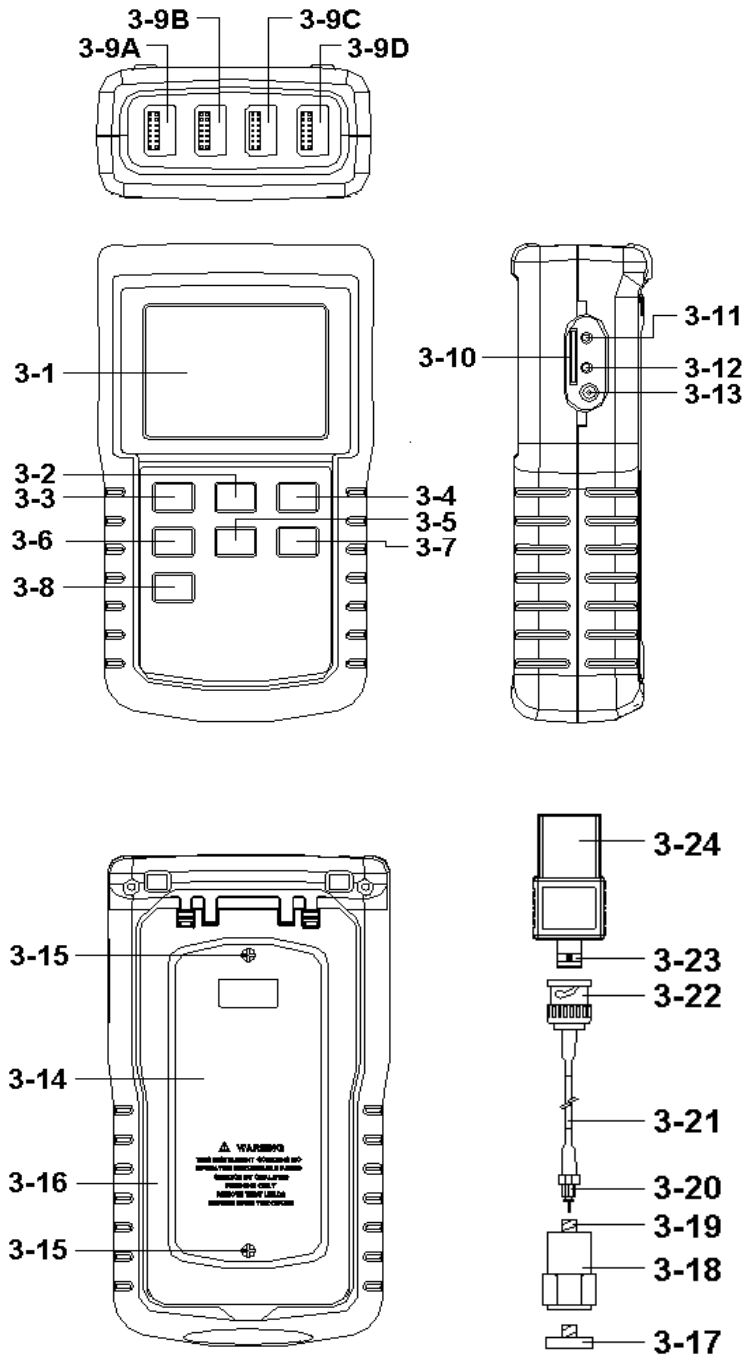
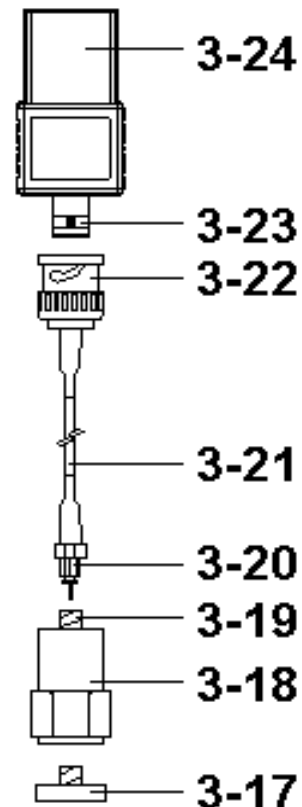

Fig. 1
Fig. 2
Zero Button	Under Acceleration (RMS) measurement, sensor motionless , press two Buttons (3-5, 3-7, Fig. 1) >3 seconds.
Max. Hold Reset Button	Under Max. hold measurement, press two Buttons (3-5, 3-7, Fig. 1) >3 seconds.
1. Vibration Sensor, 3-18, Fig 2
2. Sensor Cable, 3-21, Fig. 2
- 3 VB-83 module, 3-24, Fig. 2
* Plug in the " Cable BNC Plug " (3-22, Fig. 2) to the " BNC Socket of VB-83 module " (3-23, Fig. 2).
* Plug in the " Mini plug of cable " (3-20, Fig. 2) to the " Input socket of vibration sensor " (3-19, Fig. 2).
Plug in the " Plug of VB-83 module " (3-24, Fig. 2) to the " CH1 VB-83 Input Socket " (3-9A, Fig. 1). If you have extra vibration sensor set, then Plug in to the " CH2/CH3/CH4 VB-83 Input Socket " (3-9B, 3-9C, 3-9D Fig. 1)
When change the VB-83, it is not necessary to make calibration again due to the vibration detail calibration information already save into the " VB-83 module " (3-24, Fig. 2)*
2)1) Power on the meter by pressing the " Power button " (3-2, Fig. 1) > 3 seconds continuously.
The " Display " (3-1, Fig. 1) will show the 4 channels vibration value (CH1, CH2, CH3, CH4) at the same time. If some channels not plug in the VB-83 Vibration set, then the corresponding channel Display will show " - - - - ".
- * If the surface material of measuring article is the ferrous material, connect " Vibration sensor " (3-18, Fig. 2) with the " Magnetic base " (3-17, Fig. 2). Put the whole unit (Vibration sensor & Magnetic base) to the surface of measuring article.*
- * Please do not use the finger or hand to touch the the " Sensor cable " (3-21, Fig. 1).*
Select the desired display unit by pressing the " ACC/VEL/DISP Button " (3-5, Fig. 1) > 3 seconds (not release the button), the Display will show the following units according Acceleration / Velocity / Displacement in sequence.
Select the desired function (RMS, Peak, Max HOLD) by pressing the " Function Button " (3-7, Fig. 1). continuously (not release the button), until the Display will show the desiring function (RMS, Max HOLD, Peak) , then release the " Function Button " (3-7, Fig. 1).
- 1) Vibration sensor set, VB-83 is ready, connect the " Plug of VB-83 module " (3-24, Fig. 1) to the " CH1, CH2, CH3, CH4 VB-83 Input Socket " (3-9A, B, C, D, Fig. 1).
- 4) Under Acc./Velocity/Displacement measurement if press the " ▲ Button " (3-5, Fig. 1) and " ▼ Button " (3-7, Fig. 1) together > 3 seconds, then the " CH1 " symbol will flashing.
** Press the " SET Button " (3-6, Fig. 1) to select the channel no. (CH2, CH3, CH4), after the exact channel is selected, the channel no. will flashing .*
Press " Enter Button " (3-8, Fig. 1) to let the display reach zero value according the selected channle no. (flashing).
Under execute the Max Hold function if press the " ▲ Button " (3-5, Fig. 1) and " ▼ Button " (3-7, Fig. 1) together > 3 seconds, then the " CH1 " symbol will flasing.
Press " Enter Button " (3-8, Fig. 1) to clear the existing Max hold value according the selected channle no. (flashing).
During the measurement, press the " Hold Button " (3-3, Fig. 1) once will hold the measured value & the LCD will display a " HOLD " symbol.
- 1) The data record function records the maximum and minimum readings. Press the " REC Button " (3-4, Fig. 1) once to start the Data Record function and there will be a " REC " symbol on the display.